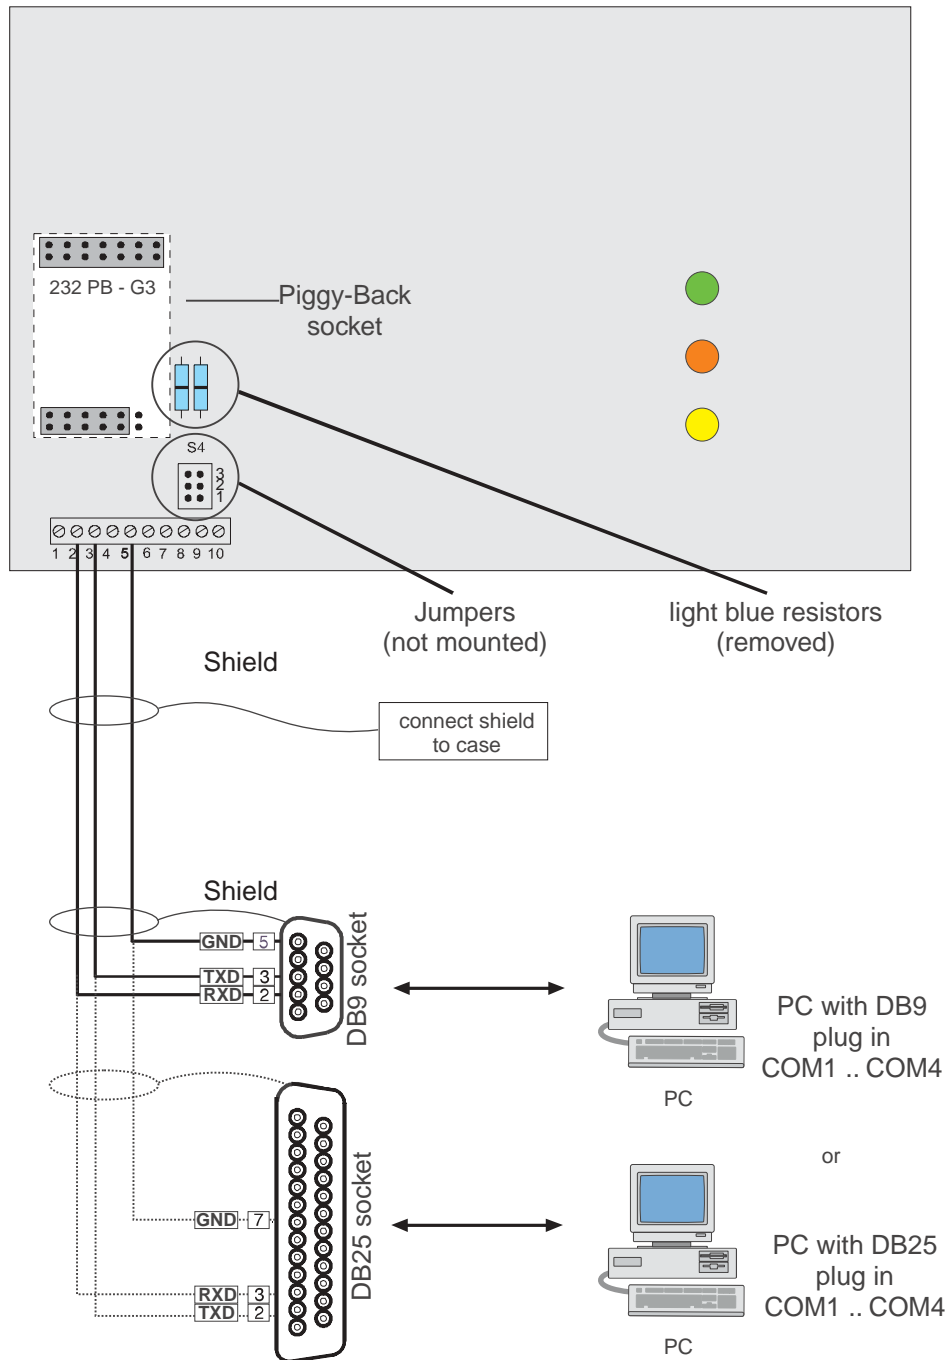
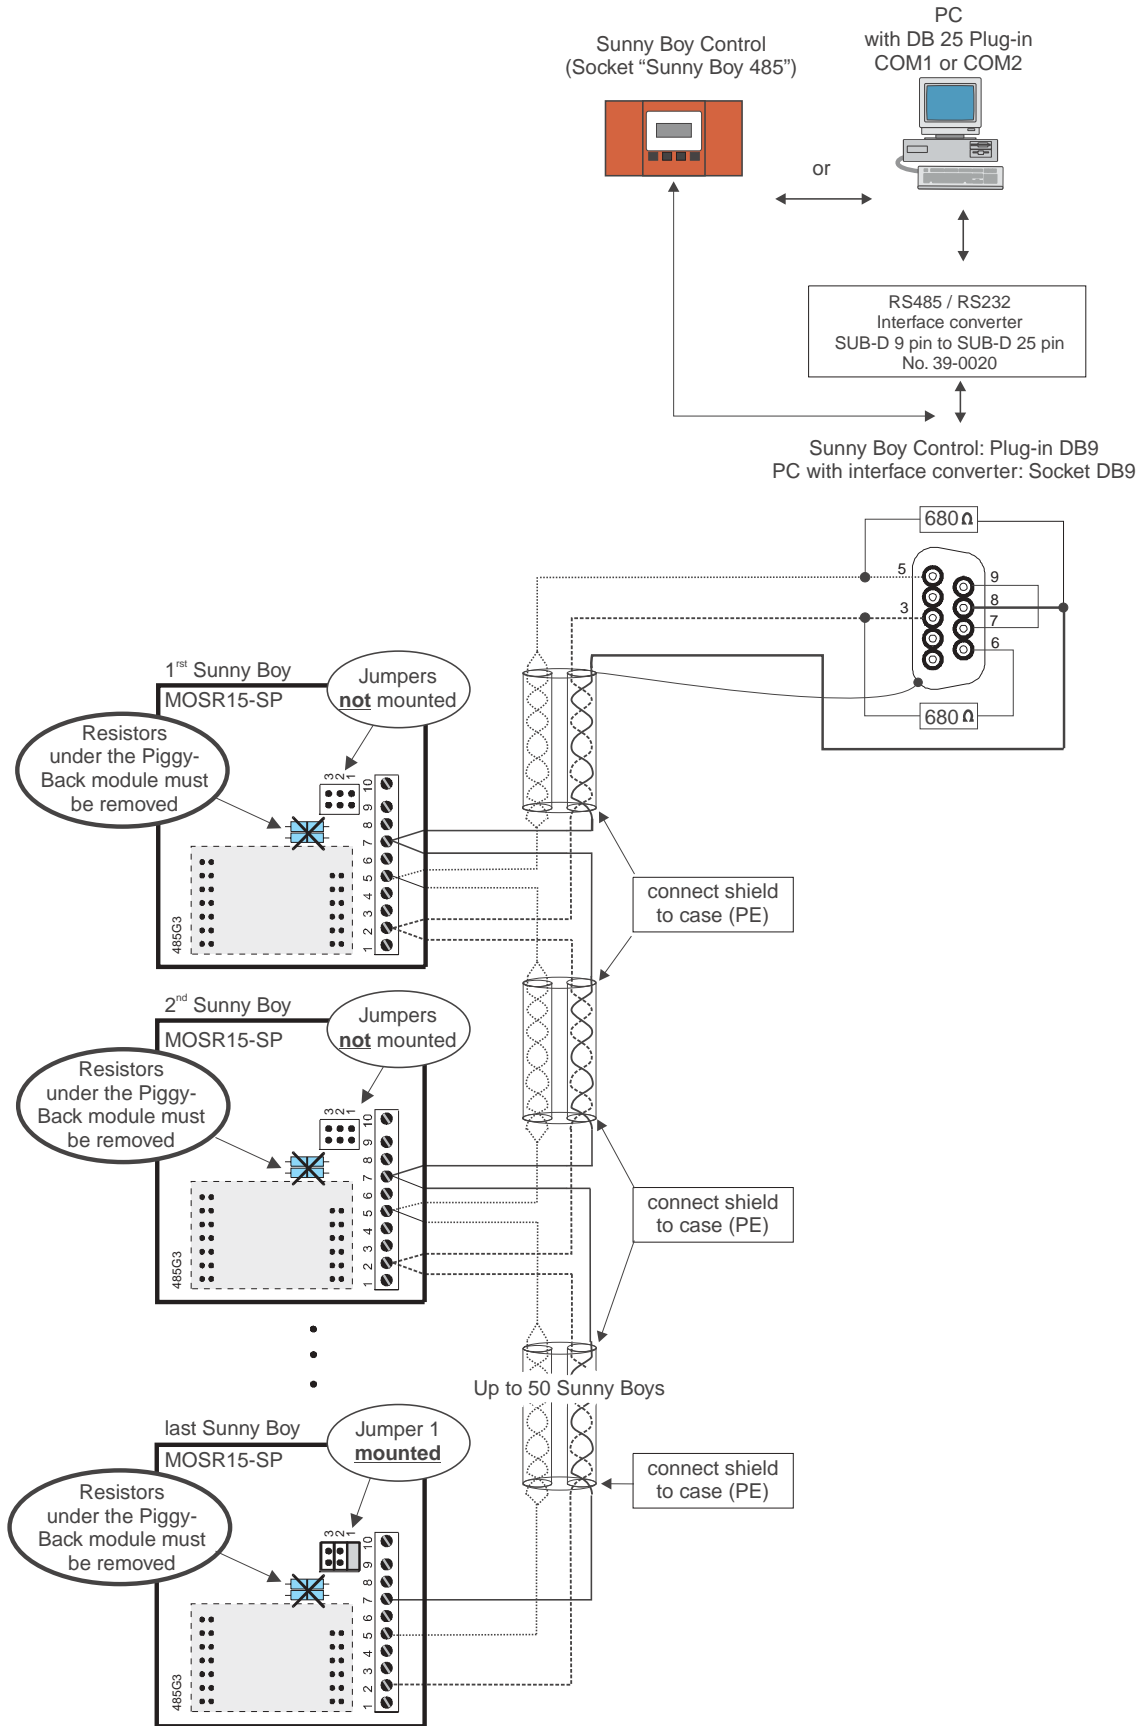

Fig. 6.3: System control board Sunny Boy with RS232 cabling
Fig. 6.6: System control board Sunny Boy with RS485 cabling
- The Powerline piggy back modem is installed (see Fig. 6.3: System control board Sunny Boy with RS232 cabling).
- The blue resistors under the piggy back have to be installed for Powerline communication (see Fig. 6.3).
- The light blue resistors (Fig. 6.3) on the system control board are removed.
- Connect RS232 connection cable LIYCY; 0.25 mm², minimum three-core with common shield and a maximum length of 15 m. You can see the connector layout in Fig. 6.3. The shielding should be connected to protective earth (PE) on both ends at the Sunny Boy and the PC case.
- The light blue resistors (**Fig. 6.6**) on the system control board are removed.
- Two resistors of 680 Ohm each must be integrated into the DB9 connection at the beginning of the cable that is connected to the Sunny Boy Control or the PC. One is soldered from pin 3 to pin 6, the other is soldered from pin 5 to pin 8 (see Fig. 6.6). These resistors are not required for communication with the *Sunny Boy Control* if the corresponding jumpers were plugged on.
- The recommended cable for the RS485 connection is a LIYCY 2 x 0.25 mm twisted pair cable. It consists of four data lines of which two are each combined to altogether two twisted pairs. Both pairs are surrounded by a single common shield. Maximum length of the entire RS485 connection is 1200 m (4000 ft.). It is essential to connect the outer shielding to protective earth (PE) on both ends.
- Remove the resistors (Fig. 6.6) on the system control board by cutting them out with a wire cutter.
- Please make sure that the resistors (Fig. 6.6) are plugged onto the system control board. If not, resistors (corresponding to 0 Ohm resistors) have to be installed in there.
Connect the cables for RS232 (see Fig. 6.3) or RS485 (see Fig. 6.6). No cabling is necessary for Powerline communication. Data cables are lead outside through the free opening at the bottom of the Sunny Boy. Please insert the PG16 screws into this opening and fasten them.